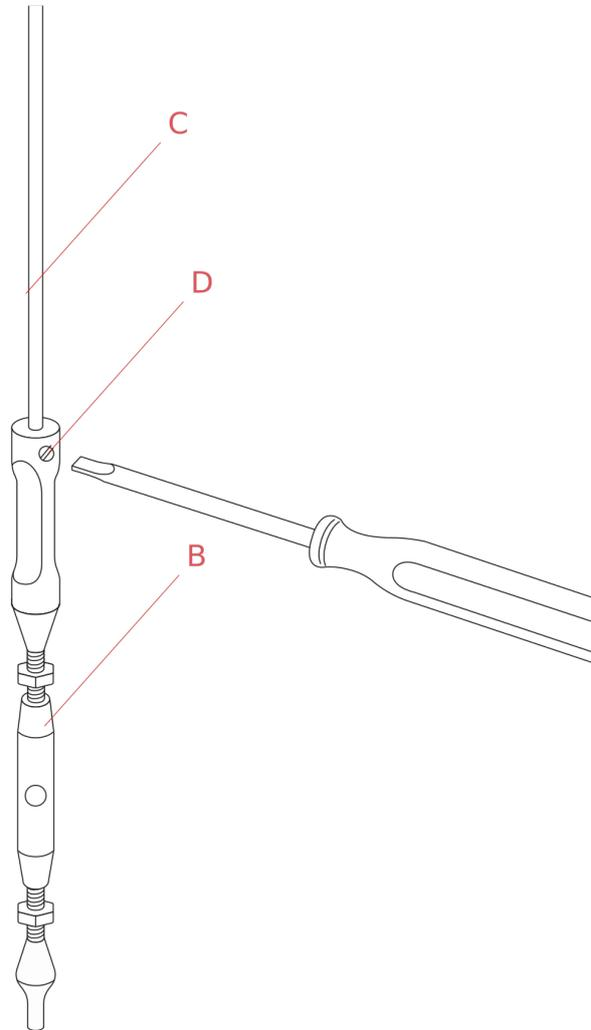

Fig.2
Insert and slide the suspension cable (C) through the Parentesi tube (E). Insert the end point of the steel suspension cable (C) into the upper hole of the turnbuckle (B) and then fasten the locking screw (D). (Fig.2 page 2)